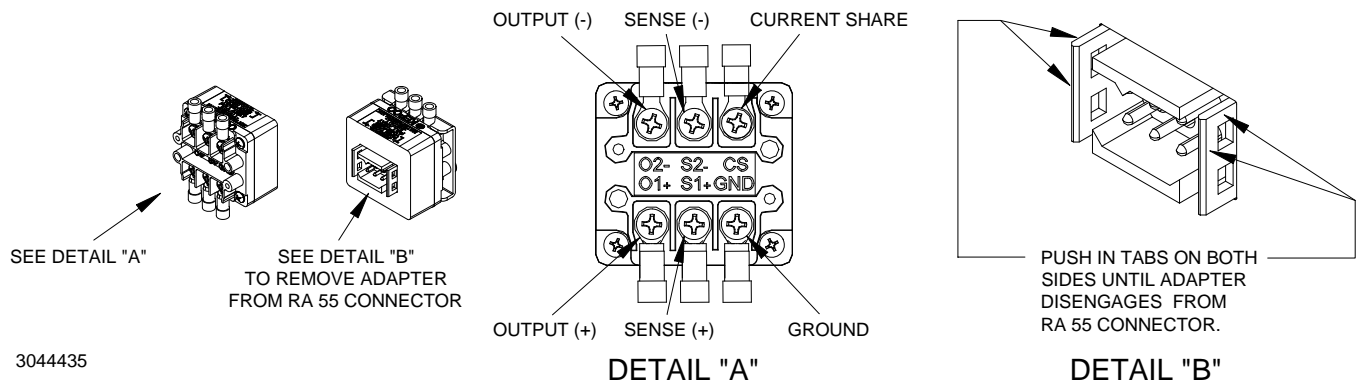

FIGURE 1. KIT 219-0618 ADAPTER
This kit provides an adapter (see Figure 1) which converts the 6-pin Load Connector at the rear of the RA 55 Rack Adapter to terminals with pre-installed lugs using 6-32 screws (for 0.312 inch maximum ring diameter), for connection to a load. See Figure 3 for outline dimensions. The adapter (KIT 219-0618 Rev 2 and higher) also includes open sense protection that prevents an OVP trigger from the MST-HT from causing an open sense fault.
2. Crimp wires or pre-wired harness to lugs. See Figure 1 for terminal functions.
If removal of the adapter is necessary, pull the adapter away from the RA 55 load connector while simultaneously pushing in both tabs of the adapter as shown in Figure 1, detail "B." When the RA 55 connector disengages from the corresponding holes of the adapter, pull the adapter away from the RA 55 load connector.